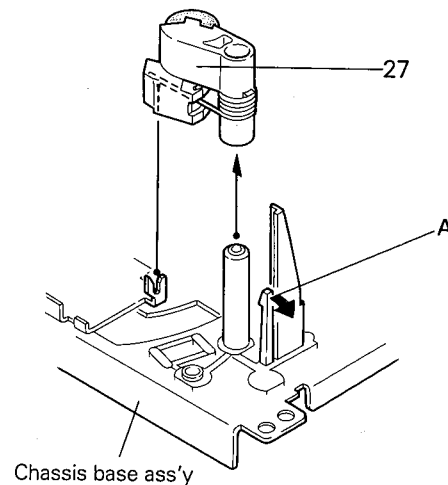

Fig. 5-43
■ Pinch roller assembly (Fig. 5-43)
1. Expand the pawl (A) retaining the pinch roller assembly (27) on the right side in the direction of the arrow while pulling out the pinch roller assembly upwards.